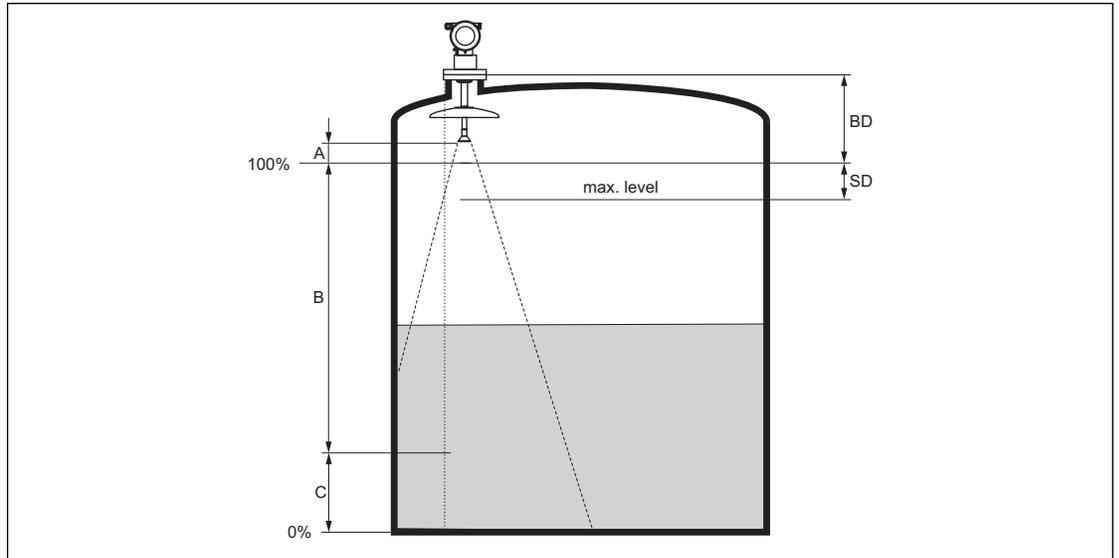

Figure 4-6: Measuring Conditions
- For overspill protection, it is possible to define a safety distance (SD) additionally to the blocking distance (BD).
- The smallest possible measuring range B depends on the antenna version (see Figure 4-6 on page 16).
- In case of media with a low dielectric constant (groups A and B), the tank bottom can be visible through the medium at low levels (low height C). Reduced accuracy has to be expected in this range. If this is not acceptable, we recommend positioning the zero point at a distance C (see Figure 4-6 on page 16) above the tank bottom in these applications.
- In applications with parabolic antennas, especially for media with low dielectric constants (media group A and B, (see Table 4-3 on page 17), the end of the measuring range should not be closer than 1 m (40") to the flange (see A in Figure 4-6).
- The safety distance (SD) is set to 0.5 m (20") by default, generating an alarm in case the product level rises inside the safety distance.